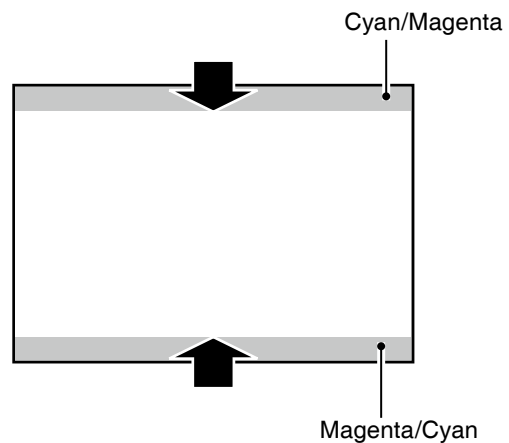

Fig.1-2
2) Insert a slot driver into the slot **D** and turn it to move the image vertically as shown in **Fig.1-2**.